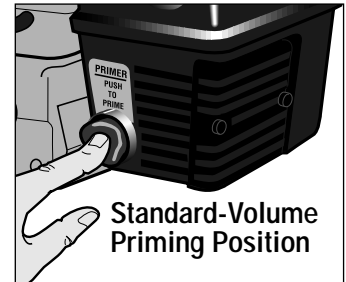

Figure 7
### Fuel Primer Bulb (Section 4, Figure 7)
Use this starting method to start a new engine for the first time, or after running out of gas, or after extended storage. Use thumb and forefinger to squeeze the side of the primer bulb that is in line with the light colored rib on the primer body, as shown in Figure 7 (High-Volume Priming Position). Squeeze the primer bulb six (6) times. This process removes air from the priming system. As fuel enters the priming system, the priming action will feel more firm.
Use this starting method after the unit has been sitting or has been in brief storage, and has fuel in the tank. Use the Standard-Volume Priming Position (Figure 7) and push in top of primer bulb two (2) times for above 55°F, or three (3) times if below 55°F.